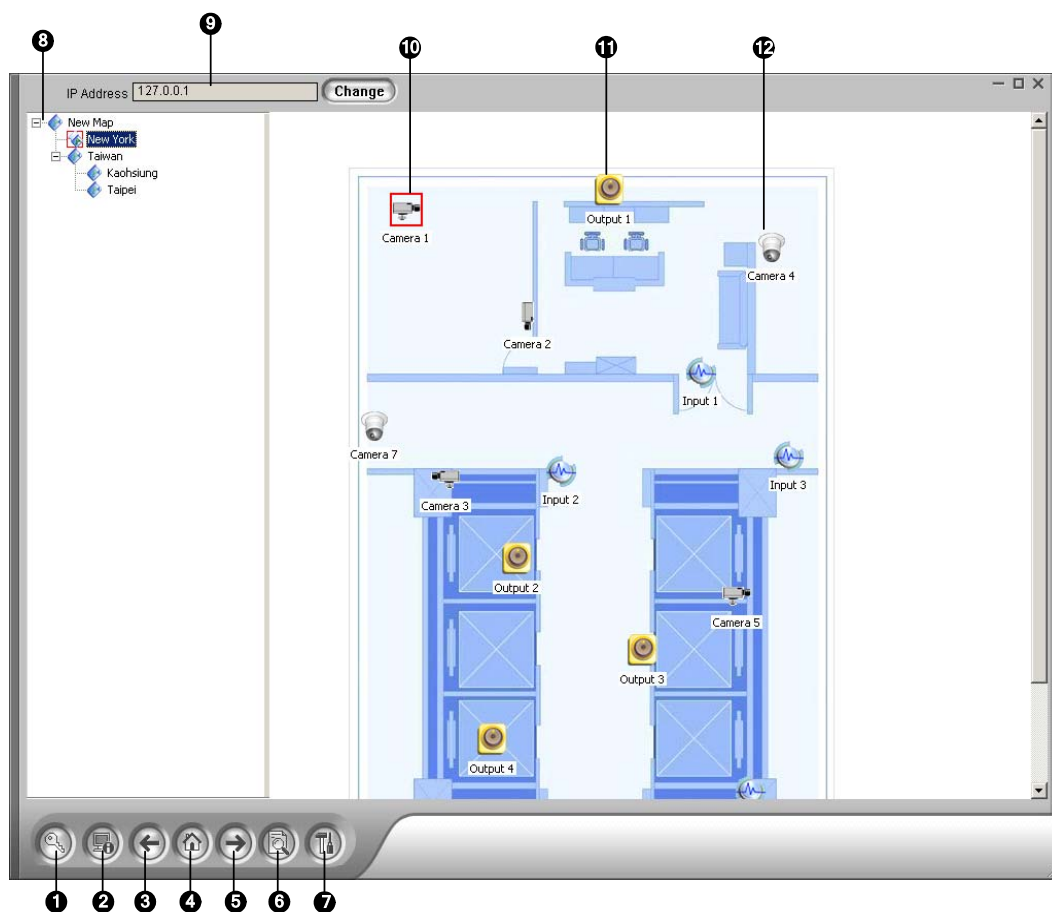

Figure 7-5 The Remote E-Map Window
When the client PC connects to the WebCam server, all the E-Maps saved in the local server will be downloaded to the client PC, with the E-Map files of 500 hosts at most. The E-Maps created for remote hosts can only function on WebCam after you log in these hosts. You can login 500 hosts at a time. Click the **Login** button (No. 1, Figure 7-5) to display the following Login window.
Click the **Configure** button (No. 7, Figure 7-5) to display the following dialog box:
The Host Information window lists camera and I/O device trigger information. Click the **Host Information** button (No. 2, Figure 7-5) to display.
On the Remote E-Map window, the **ViewLog** button (No.6, Figure 7-5) is designed for the Remote ViewLog function, giving you remote access to the recorded files of DVR and playing back video by the player ViewLog.
4. Click the **Login** button (No.1, Figure 7-5) to select the desired host(s) to access it videos and I/O devices.